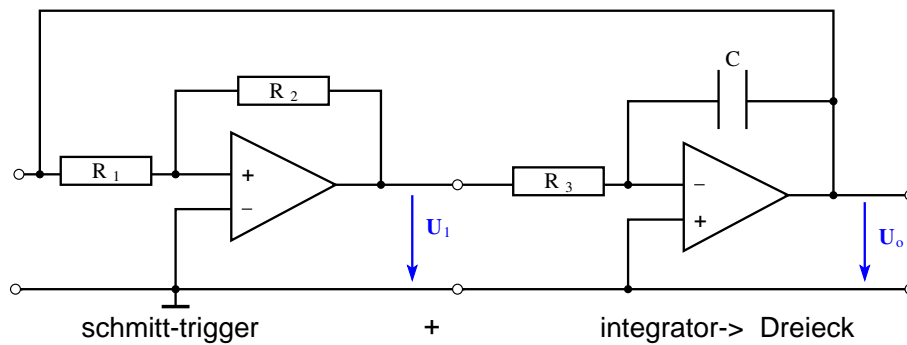

Figure 7: Circuit of an Generator
- What is the theoretical value of the oscillation frequency generated in the circuit in Fig. 7?
Set up the circuit of a generator shown in Figure 7. Use the following components for the